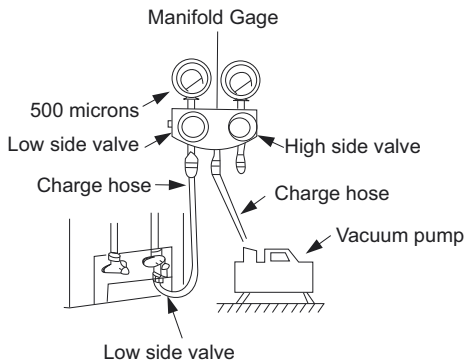

Fig. 22 – Manifold
- 3 Fully open the low side of manifold gage (see Fig. 22).